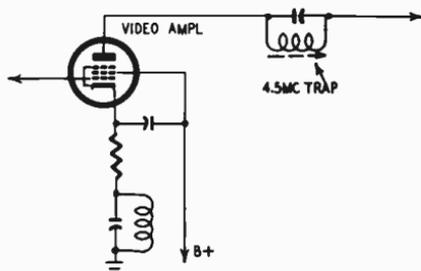

Fig. 3-S. Misaligned sound trap results in sound bars in pix.
**SERVICE:** Misaligned traps in the video if or in the video amplifier (Fig. 3AS) are a common source of sound bars in the pix. Adjacent-channel sound interference is easily recognized since the bars do not follow the sound accompanying the picture on the screen. In addition, adjacent-channel audio will usually cause trouble on only one channel and even then not all the time.